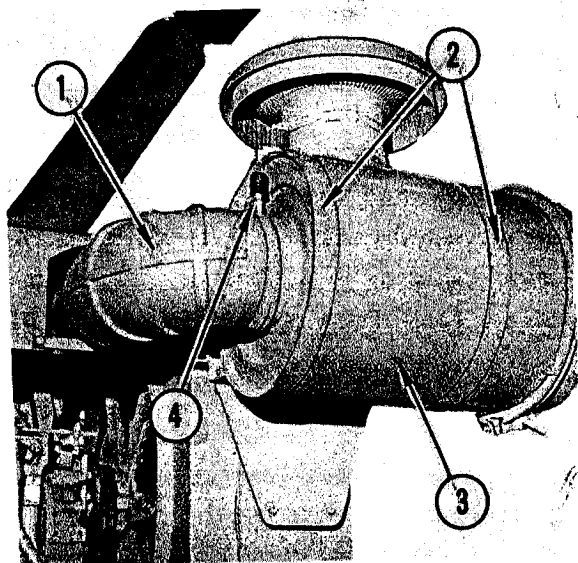

FIGURE 1. AIR CLEANER REMOVAL
To remove air cleaner from side of radiator, see Figure 1. Loosen hose clamps and remove elbow (1). Remove air cleaner mounting bands (2) and remove air cleaner (3). Remove air cleaner indicator (4).